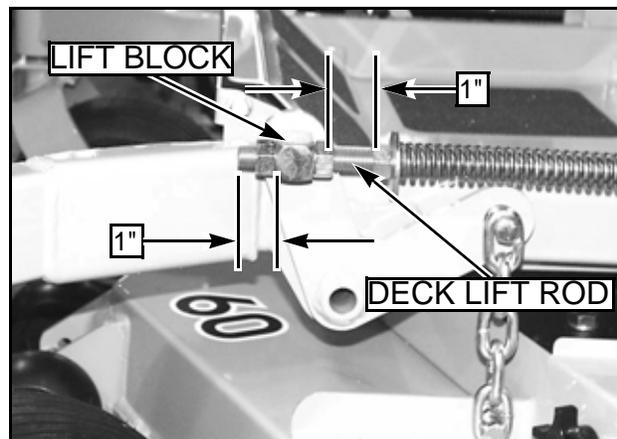

FIG. 37
9. Set the amount of threads protruding on the deck lift rod from the lift block at approximately 1" FIG. 37.
27. Compress the deck lift assist springs so that there is 1" of space between the front nut and on the spring and the rear nut on the deck lift block FIG. 37. Typical both sides.